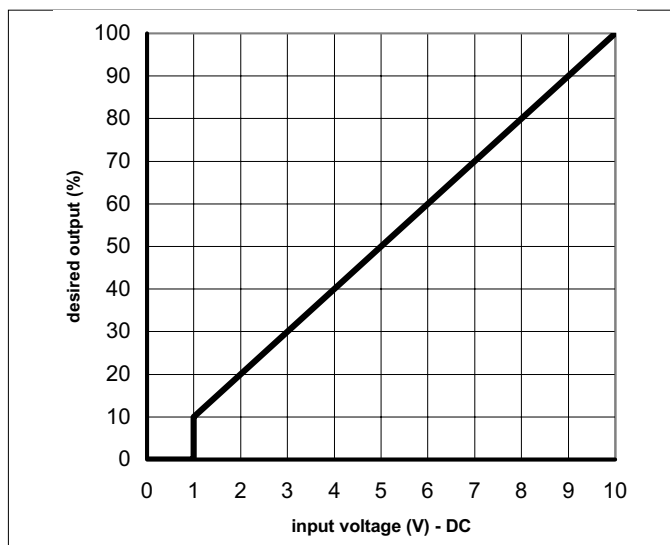

Fig. 19 Output control via analog (0-10 Volt) signal
- Output based - fixed parameters (10 to 100%), see Fig. 19.